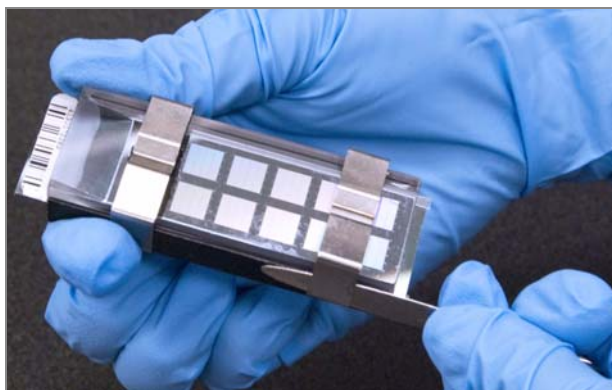

Figure 165 Removing Metal Clamps from Flow-Through Chamber
- a. Using the dismantling tool, remove the two metal clamps (Figure 165).